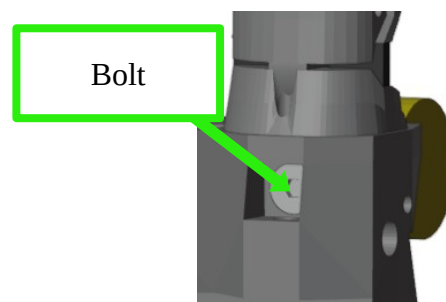

Figure 5.18: Finger bolt insertion
3. Secure with two M3 nuts placed on the opposite side (figure 5.18)